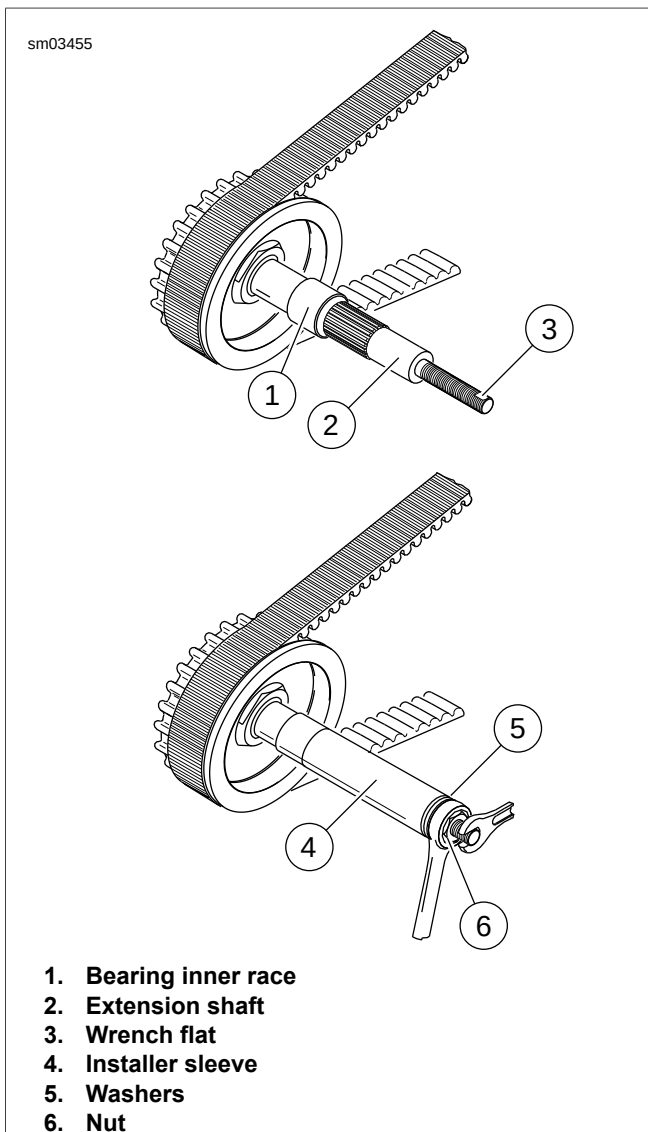

Figure 5-23. Installing Bearing Race
1. See Figure 5-23. Slide bearing inner race (1) onto mainshaft.